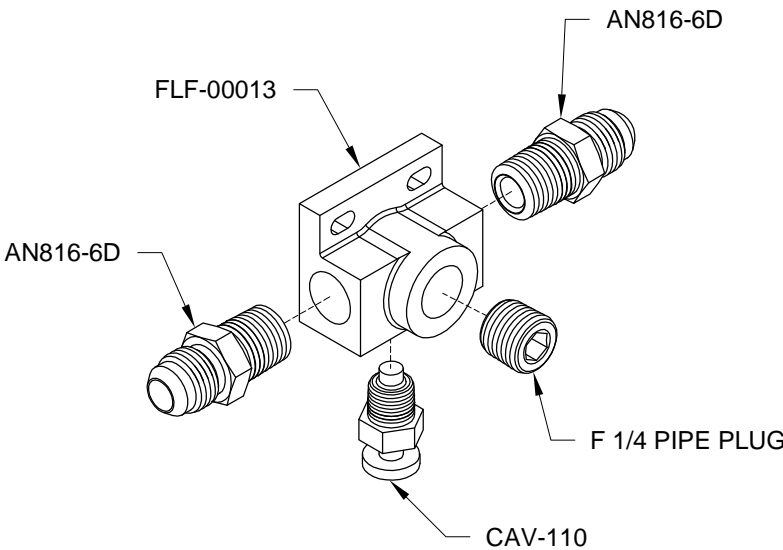

FIGURE 2: FUEL DRAIN ASSEMBLY
Step 2: Install the fluid fittings, plug, and CAV-110 into the FLF-00013 as shown in Figure 2.